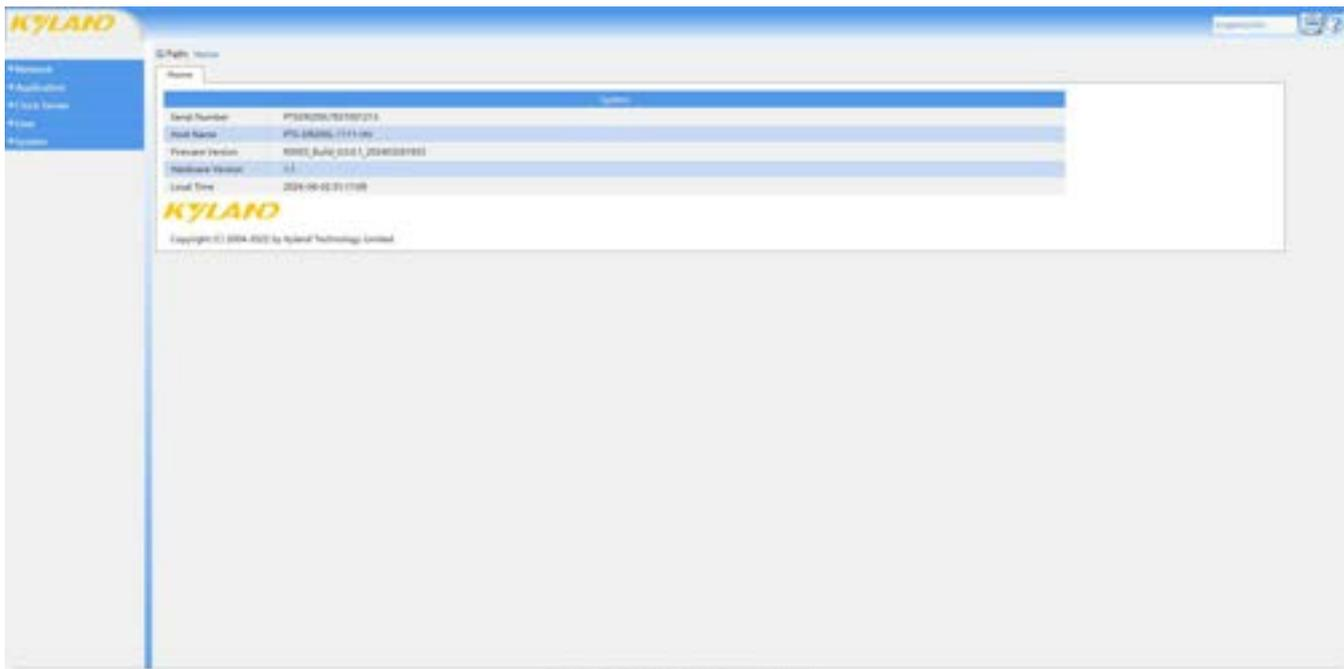

Figure 3 Web interface
2. At this time, successfully log in to the device page, and the configuration navigation tree is on the left, as shown in Figure 3;
Click the menu in the navigation tree to expand/close the menu item. Click  to link to the Web shown in Figure 3 the first interface, that is, clicking the icon under any circumstances can switch to the first interface of the Web; Click  on the language display bar to switch the system language; Click  to exit the Web operation interface; Click  to enter Kyland Technology official website.